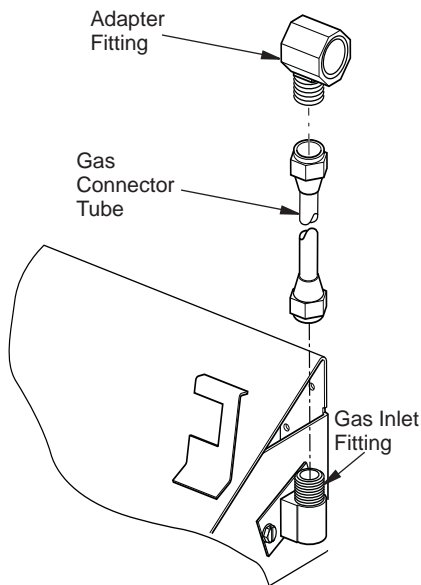

Figure 7 - Connecting Adapter to Gas Supply
3. Install adapter fitting that comes with log set into fireplace gas supply pipe (see figure 7). Seal using thread sealant.
6. Install provided gas connector tube into the gas inlet fitting (see Figure 7, page 8).